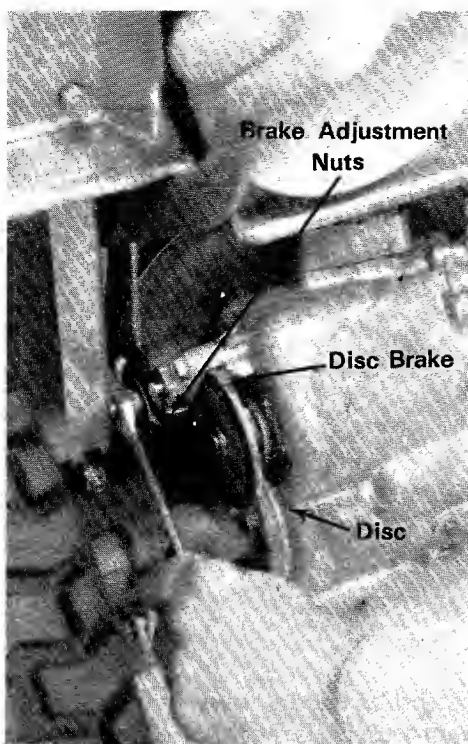

FIGURE 26. BRAKE ADJUSTMENT NUT
3. If adjustment is incorrect, tighten or loosen brake adjusting nut until correct dimension is obtained. See figure 26. Over tightening will reduce effective braking action. Lock brake adjustment with brake adjustment locknut. Periodic adjustment is necessary to maintain effective brake operation.